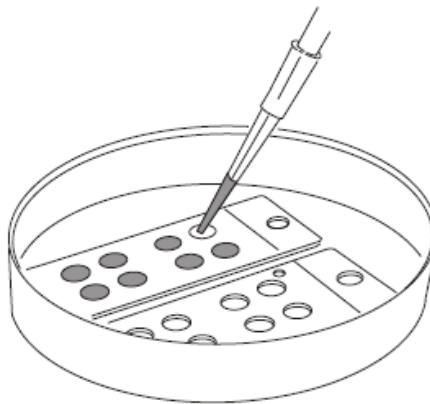

Figure 9
- MultiWell™ coverslips may be placed in culture dishes for antibody/hybridization and washing steps (Figure 9).